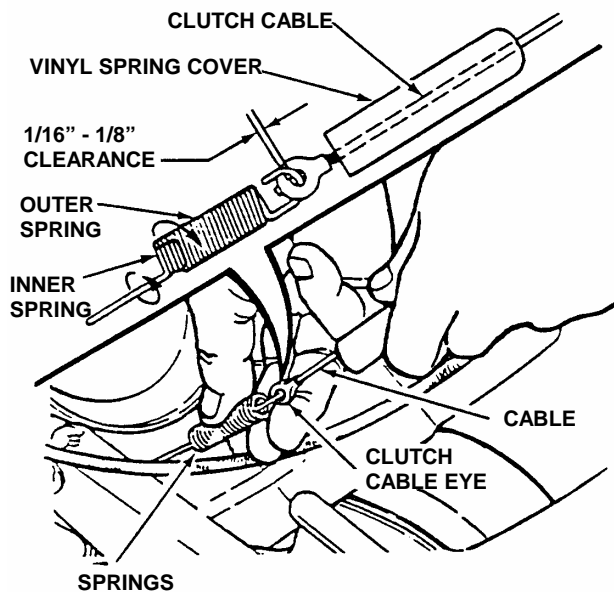

FIGURE 10
STEP 8: Check the clearance between the clutch cable and clutch spring. **NOTE:** Clearance between spring and cable is very important. Excessive clearance will cause drive system not to operate when wheel drive control handle is depressed. No clearance at all will cause mower to continue to propel itself when wheel drive control handle is released to stop the mowers forward movement. Slide vinyl spring cover (located at the end of clutch cable) up clutch cable to gain access to the end of spring and cable loop. With wheel drive control handle released, clearance between spring hook and cable loop should be $1/16''$ to $1/8''$. If clearance is more or less than specified, unhook spring from clutch cable eye, then adjust by turning inner spring in an opposite direction than the outer spring. Rehook spring to clutch cable eye. Slide vinyl cover over the spring when correct clearance is reached. See Figure 10.